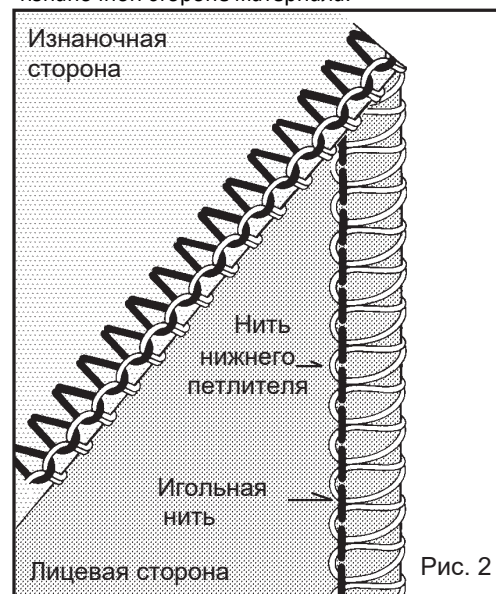
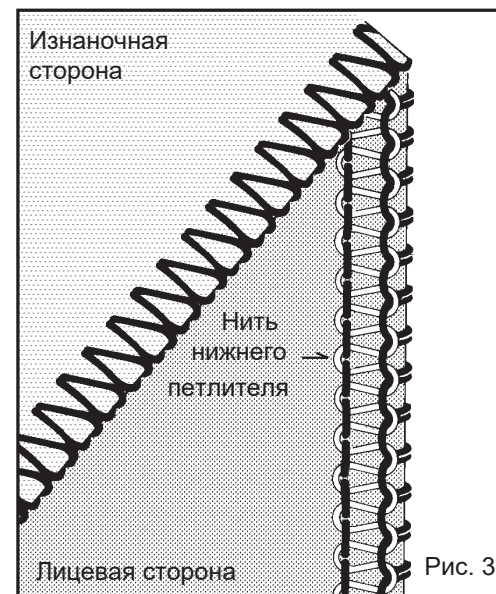

Рис. 2
Рис. 3
Attach the two-thread converter onto the upper looper as shown in Fig. 2, Fig. 3, making sure that you slide tail end in first then locate hook end into looper hole.
Turn it towards "7" if loops hang off the edge. (Fig. 2)
Loops may hang off the edge, when you sew with lightweight fabric using 3 threads (right needle only), and setting cutting width dial at 4 - 5 (Fig. 3). In such a case change the stitch finger to (B) to get neat stitching (Fig. 4).